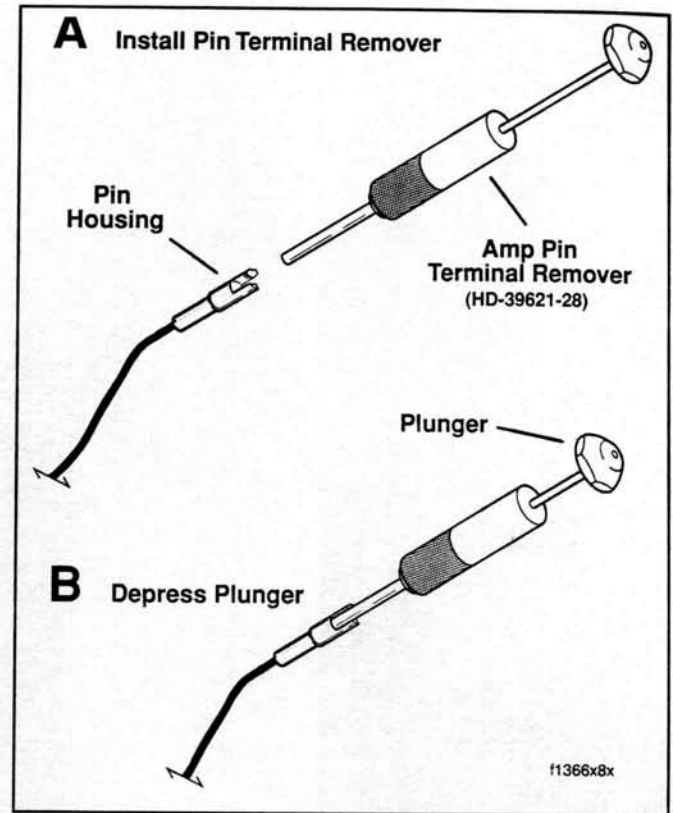

Figure A-20. Remove Terminal from Amp Pin Housing
3. Fit the barrel of the Amp Pin Terminal Remover (HD-39621-28) over the pin until it bottoms in the housing. See Figure A-20.